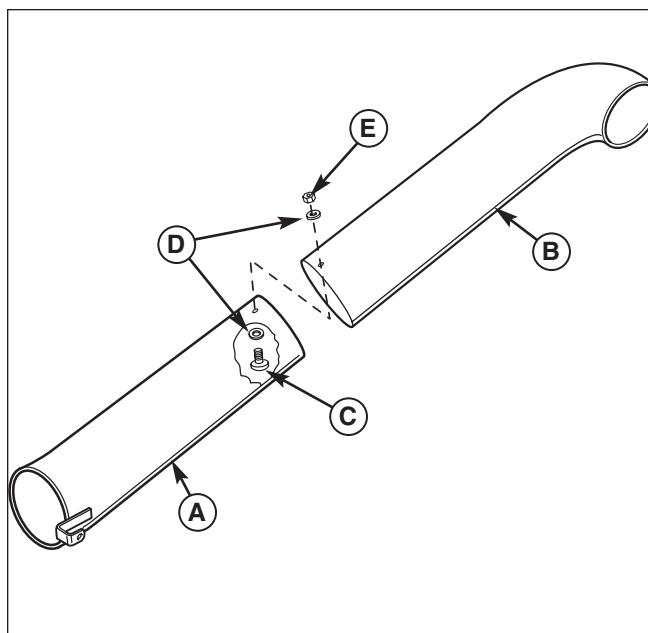

Figure 26. Install Tubes
3. Slide upper tube (B, Figure 26) over lower tube (A) secure with #10-24 x 3/4 screw (C), washers (D) and #10-24 locknut (E).